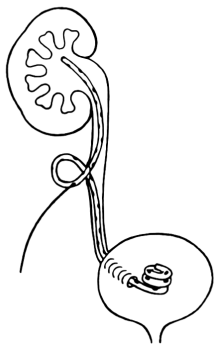
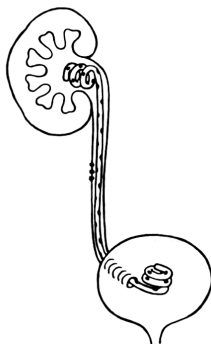

Fig. 4
Fig. 5
5. Grasping the stent and wire guide, advance the stent through the same incision and into the renal pelvis (Fig. 4). Remove the wire guide, allowing the stent coil to re-form (Fig. 5).